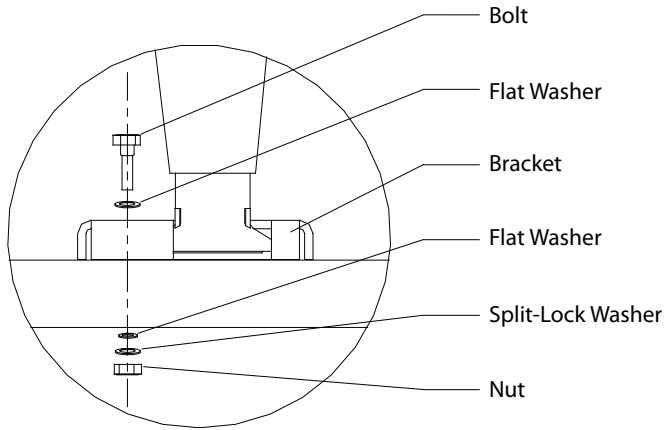

FIGURE 2: HHB 2 Oven Secured to TurboChef Oven Cart
Reference Figure 2, adjacent.
5. Secure each leg by aligning the bracket with the holes on the oven cart and attaching the parts listed in Figure 2.
3. If stacking ovens on an oven cart, make sure the bottom oven is bolted to the cart and the wheels are locked (Figure 2).